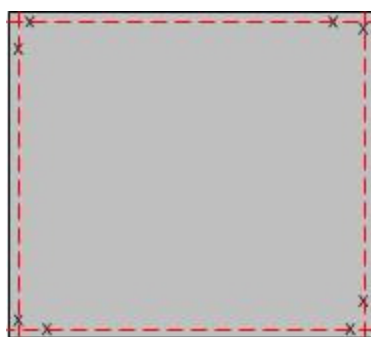

Fig.3
- Repeat this method to the other side of the concrete pad (Fig. 3).